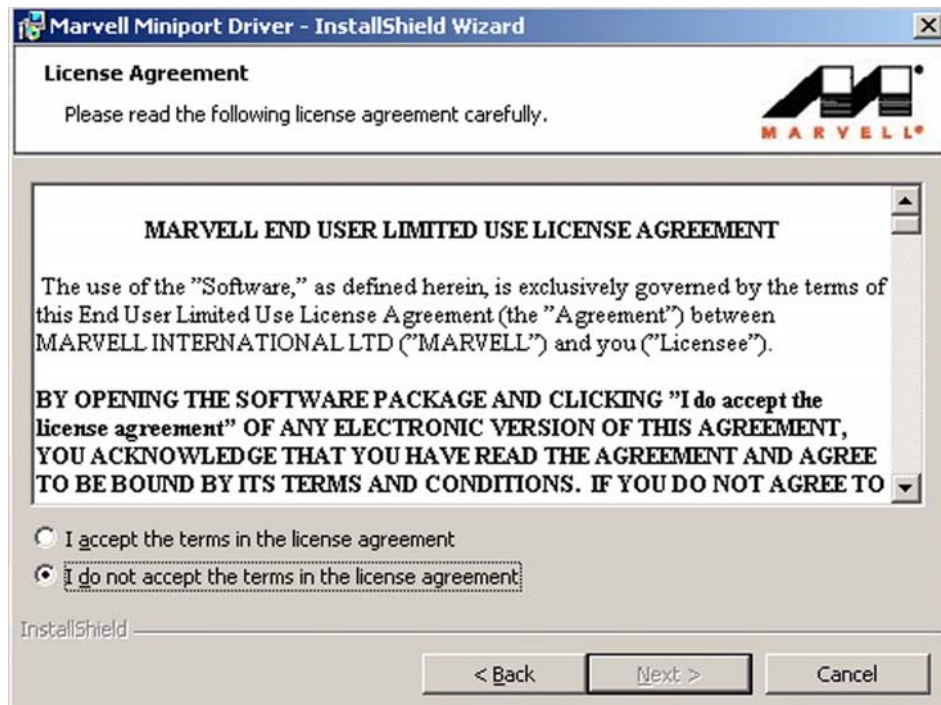
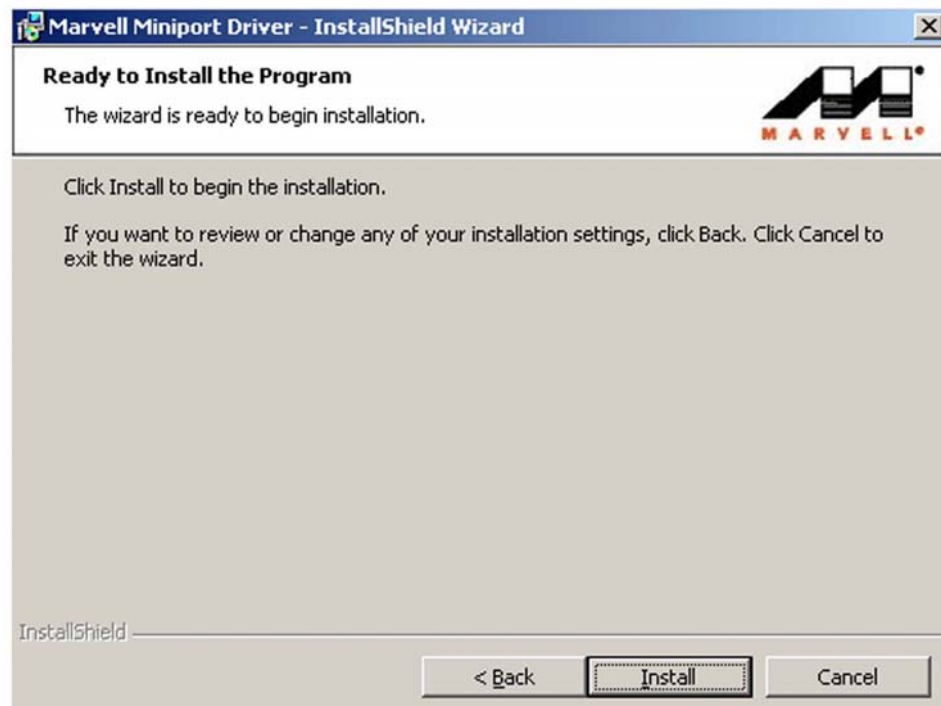
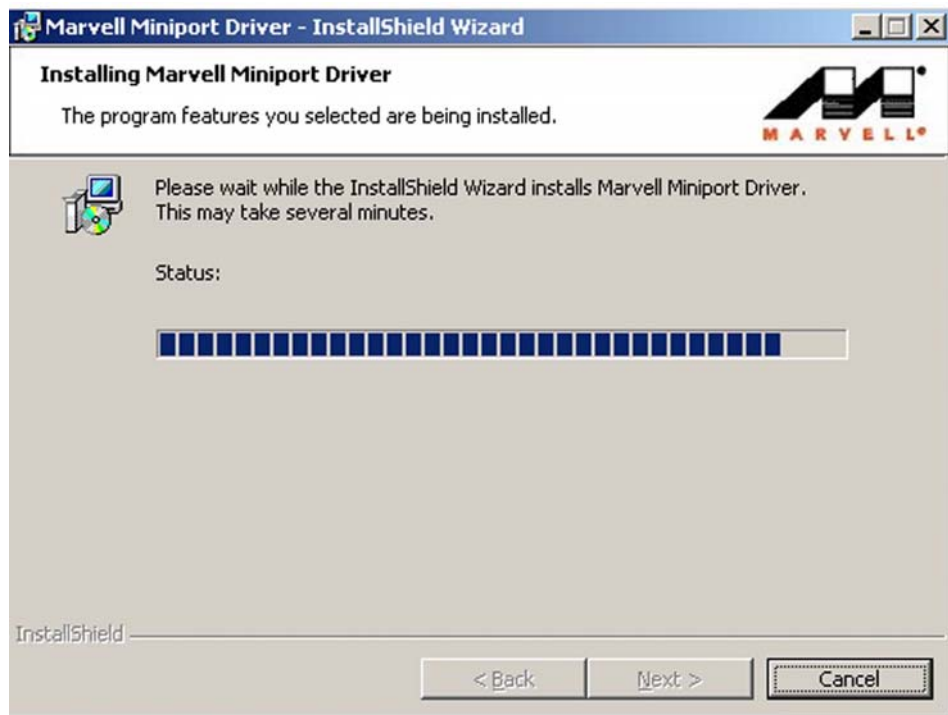

Figure 6-21: Ethernet Driver License Agreement
Figure 6-22: GMA Driver Installing Notice
Figure 6-23: Ethernet Driver is Installed
Step 3: After install shield is prepared, the welcome screen shown in **Figure 6-20** appears. To continue the installation process, click the “**NEXT**” button. The license agreement shown in **Figure 6-21** appears.
Step 4: To continue the installation process, read through the license agreement in **Figure 6-21**, select “I accept the terms in the license agreement” click the “NEXT” button.
Step 5: After clicking the “NEXT” button in **Figure 6-21**, the driver is ready to be installed. See **Figure 6-22**.
Step 6: To continue the installation process, click “**INSTALL**” in **Figure 6-22** and the installation shield begins to install the Ethernet driver. See **Figure 6-23**.